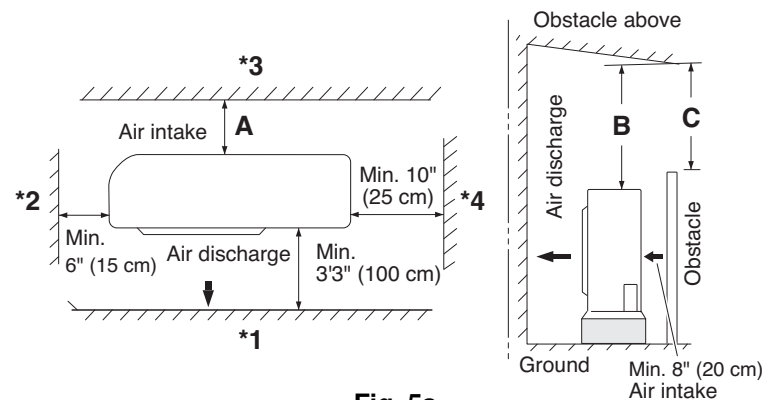

Fig. 5a
- install in a location where at least two sides are unobstructed, so that the flow of air at the intake port or exhaust port is not blocked, and so that sufficient space is ensured for maintenance to be carried out without trouble. In general the top also must be unobstructed. (Fig. 5a)
- Concerning air-intake side distance "A" (Fig. 5a) The minimum for distance "A" is 6" if there are no obstructions on the air-discharge side (wall *1 side) and *2 or *4 is not present. In all other cases, the minimum for distance "A" is 8".
- If wall *1 is on the air-discharge side (Fig. 5a), or if obstructions are present on all 3 sides *2, *3, and *4 (Fig. 5a), then the minimum distance for "B" and "C" is 39-3/8". Even if there is no wall on the air-discharge side, a minimum of 39-3/8" is required.